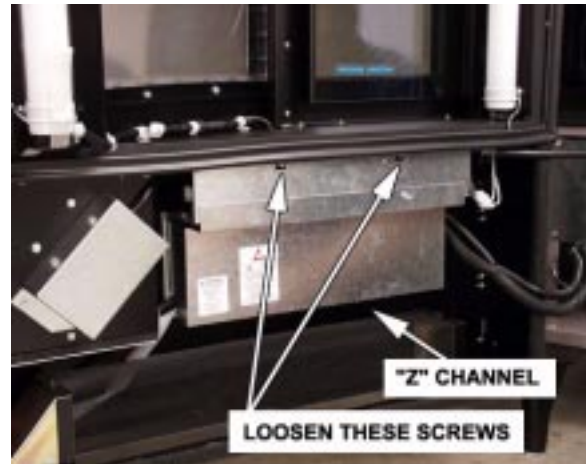

Figure 6
3. Mark all electrical connections to the PCB to make it easier to reconnect them later (figure 6).
8. Loosen the upper two screws securing the lower door electronics assembly to the door, as shown (figure 6).